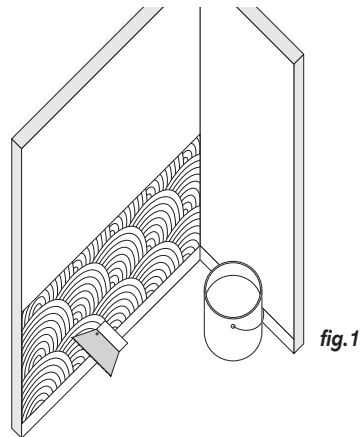

fig.1
- Place the panels against their respective wall sections and check for alignment against mouldings, skirting and floors (fig.1).
- Spread the glue over the entire wall surface marked out earlier (fig.1). Applying it to the wall is easier than applying it to the panel for onsite environments and avoids getting dust on the adhesive during the glue's open-time phase.
- Use a chamfering tool to cut a chamfer between the two panels (fig.1).
- Apply a strip of adhesive tape to protect each side of the joint (fig.1).